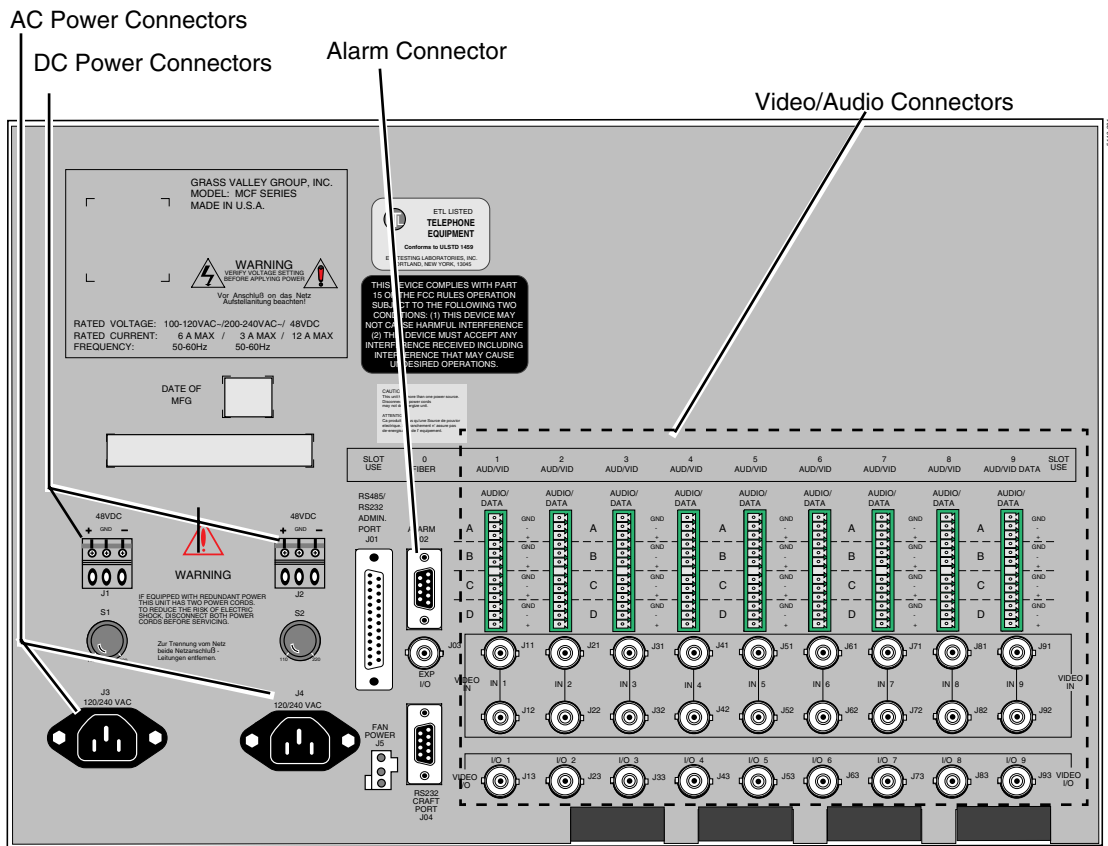
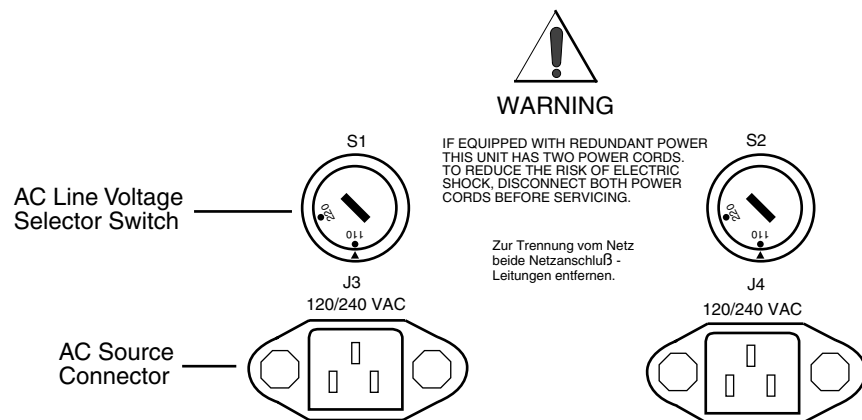
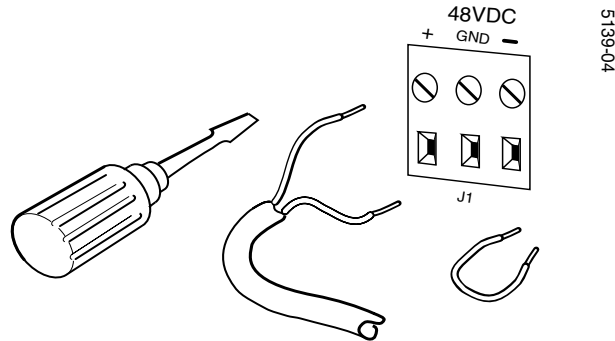

Figure 2-5. Backplane Frame for 6 RU
Figure 2-10. AC Line (Source) Voltage Selection
Figure 2-12. DC Power Connection Detail
With the exceptions of the fiber-optic cable and monitors, all connections are made at the rear of the frame. See Figure 2-5 for an illustration of a 6 RU MCF system backplane. These connections for the 6 RU backplane include the following:
AC power may be connected to either J3 or J4 or both, depending on your MCF system configuration. Setting the line (source) voltage level is done with either S1 or S2, or both, again depending on whether you have a redundant power supply installed. Figure 2-10 illustrates the location of S1 and S2. To connect AC power, see Figure 2-5 (for location of the AC connector on the backplane) and Figure 2-10 (for S1 or S2 location), and perform the following steps:
1. Using a small, regular screwdriver, set the Line Voltage Selector Switch, S1 and/or S2, as shown in Figure 2-10, to the correct level of AC source power (110 or 220 Volts nominal).
To connect DC power, see Figure 2-5 (for location of the DC connector on the backplane) and Figure 2-12 for location of the DC positive (+) and negative (–) connectors. Perform the following steps: